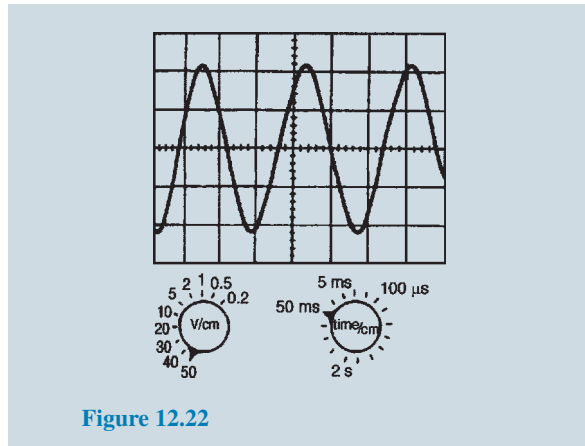

Figure 12.22
- For the sinusoidal waveform shown in Fig. 12.22, determine (a) its frequency, (b) the peak-to-peak voltage, (c) the r.m.s. voltage.